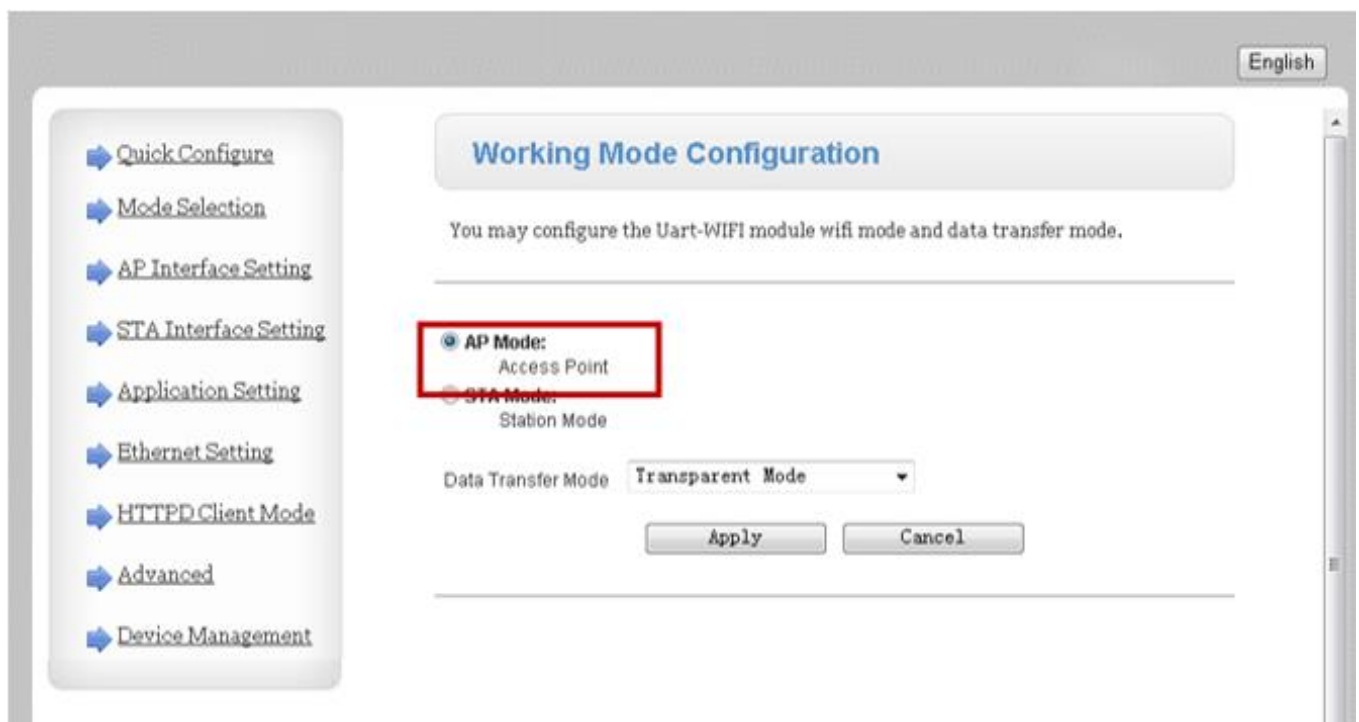

Figure 6
C. Click "Mode Selection" in the left directory to enter the mode setting interface, and set the mode to "AP" Mode, as shown in Figure 6.